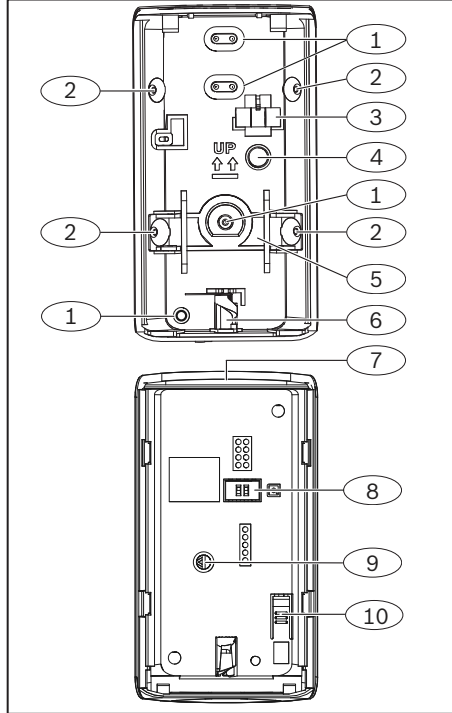

Figure 1.1: Detector base interior view (top), detector body interior view (bottom)
2. Identify mounting holes to use based on the mounting surface. Refer to *Figure 1.1*.